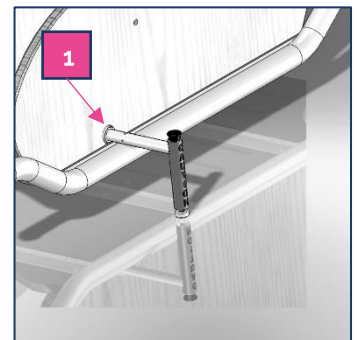

Fig. 3-1-2-1
2. Insert the stabilizers through the 'mouse-hole' (1) of the side panel as shown in Fig 3.1.2-1.
3. Turn the stabilizer to the vertical position as shown in Fig 3.1.2.1